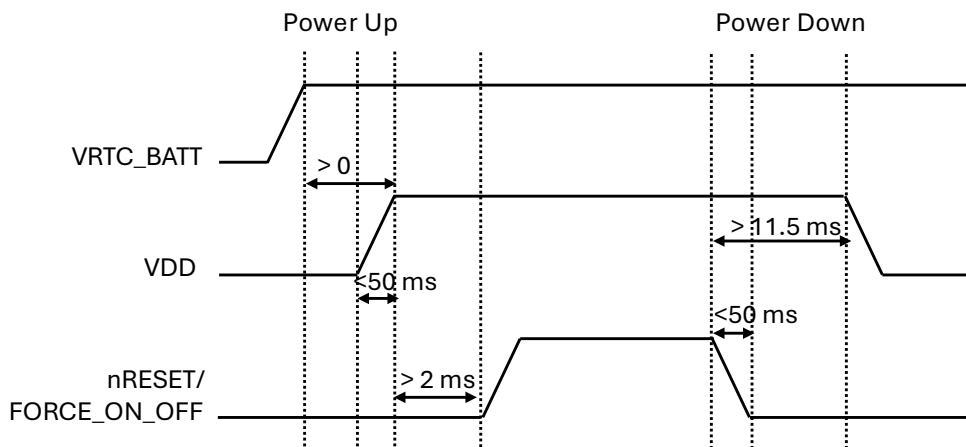
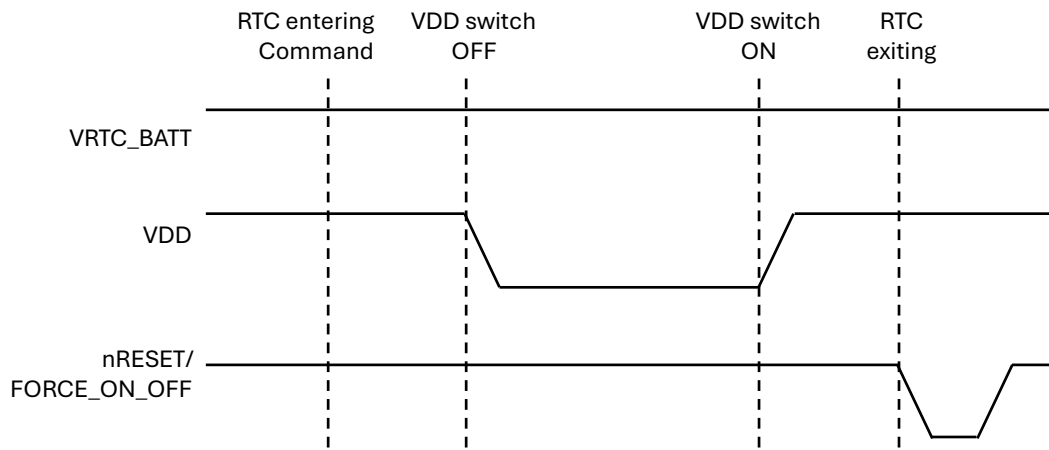

Figure 4: Power up and down sequence
Figure 5: RTC mode entering sequence
All SL871K2L series supports two ways of RTC mode: SW RTC accessed via command and HW RTC entered by removing VDD or toggling nRESET; the two modes present different power consumption values as reported in Table 10. After entering RTC with the proper command, VDD must be switched OFF, as indicated in Figure 5, to allow the minimum power consumption in RTC mode
In VDD generation, the enable PIN (CE) (both for LDO and DC-DC option) must be connected to an host microcontroller, or to VBATT_RTC to ensure the correct power up/down sequence as indicated in Figure 4 and Figure 5.